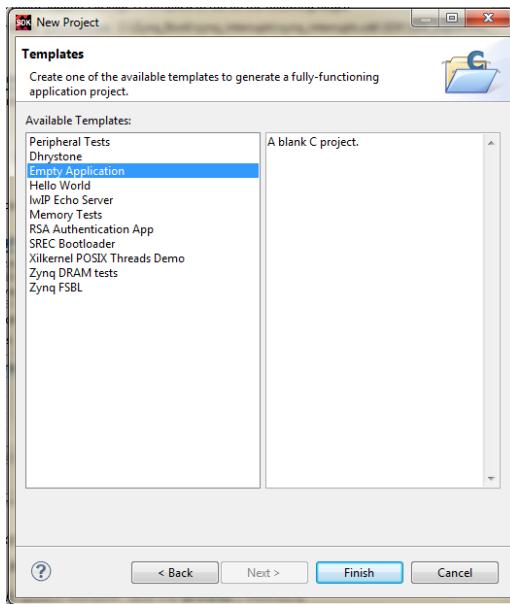

Figure 2.21: New Project Template dialogue
- (c) At the *New Project Templates* screen, select ***Empty Application***, as in Figure 2.21, and click ***Finish*** to create the project.